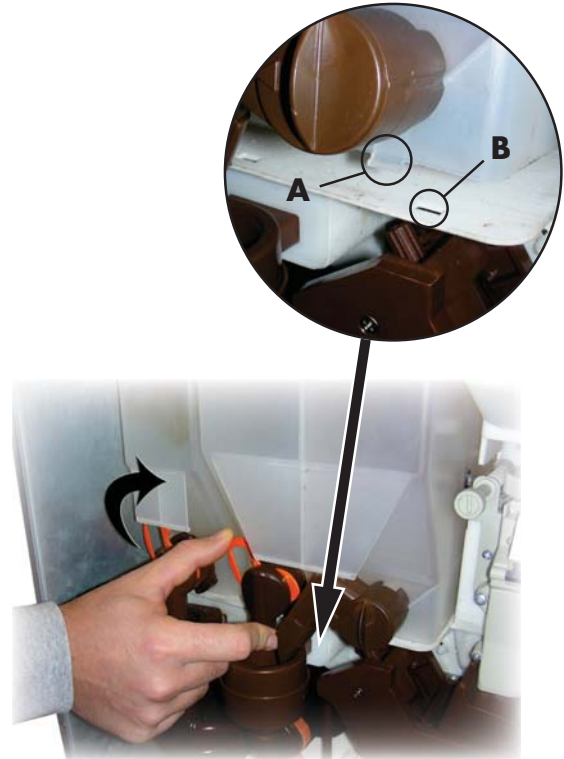

Fig. 56
- Turn the coffee bean hopper locking lever counter-clockwise (Fig. 56).
When reassembling the coffee bean hopper, make sure you insert the hooks (A) in their place (B) (Fig. 56).